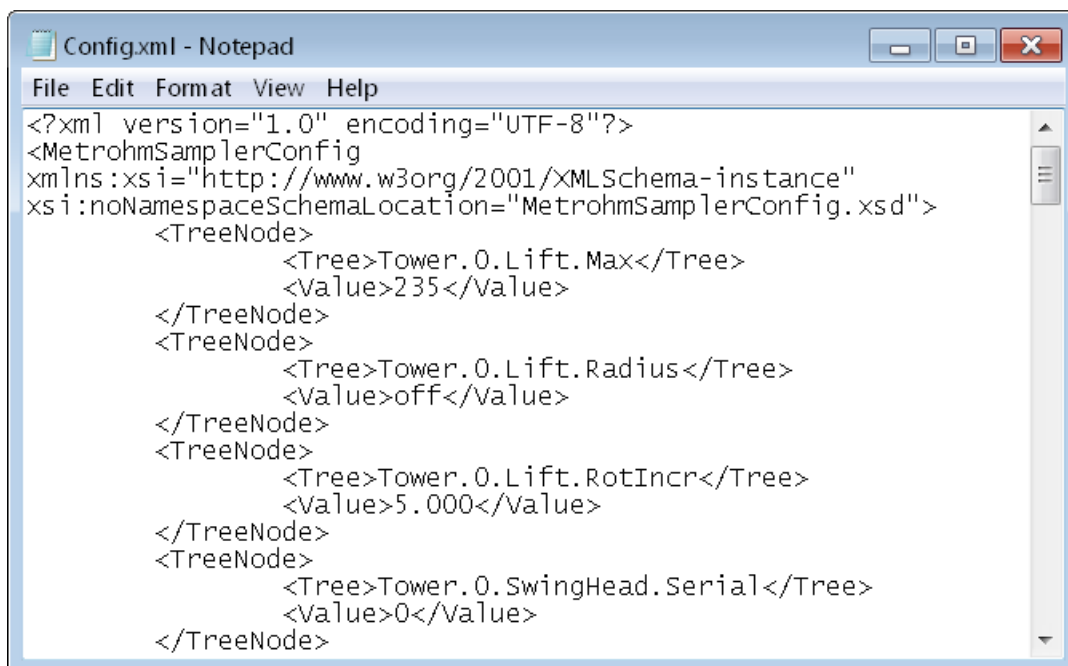

Figure 57 – Open the Config.xml file with a text editor
4. Once this procedure is finished, use a text editor (for example Notepad), to edit the Config.xml file (see Figure 57).